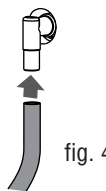

fig. 4
- 3) Attach the rubber hose to the outlet as shown in figure 4.